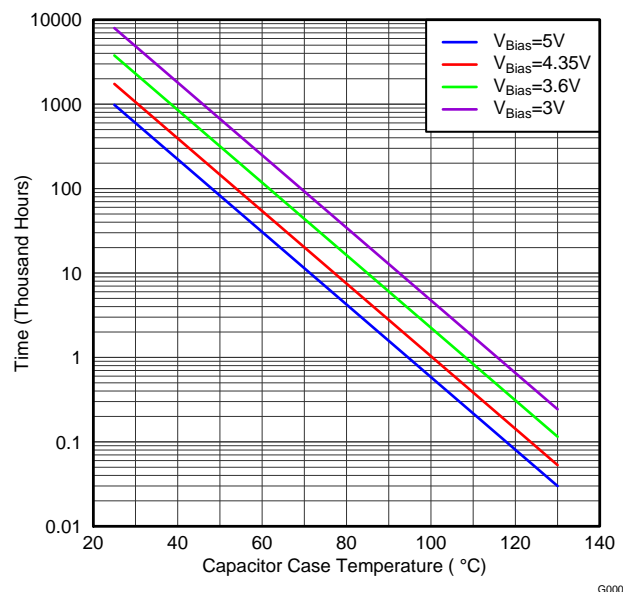

Figure 26. Capacitor Lifetime vs Capacitor Case Temperature
Failures caused by systematic degradation can be described by the Arrhenius model. The most critical parameter (IR) is the Insulation Resistance (i.e. leakage current). The drop of IR below a lower limit (e.g. 1 MΩ) is used as the failure criterion, see Figure 26. It should be noted that the wear-out mechanisms occurring in the MLCC capacitors are not reversible but cumulative over time.